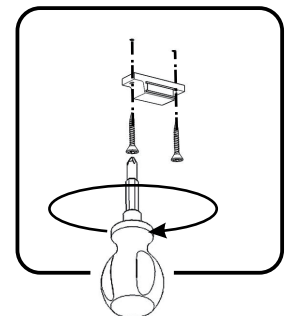

Figure 2
Attach Magnets to Middle Panels (D) and (E) with Wood Screws for Magnet. (See Figure 2)